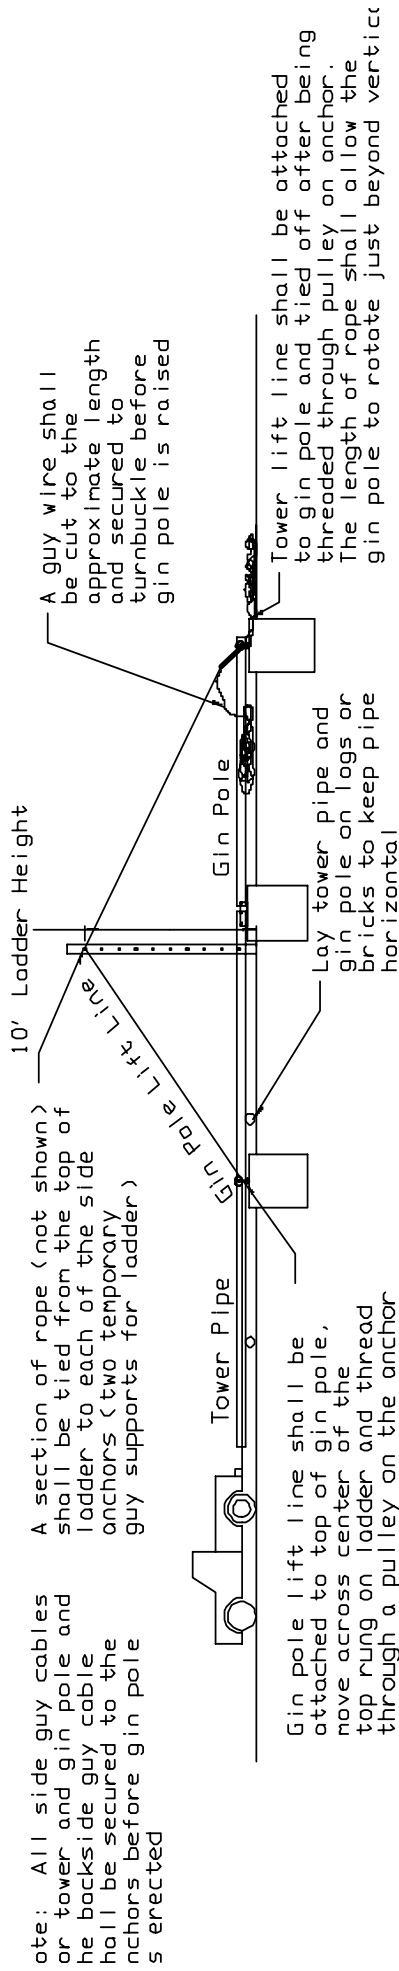
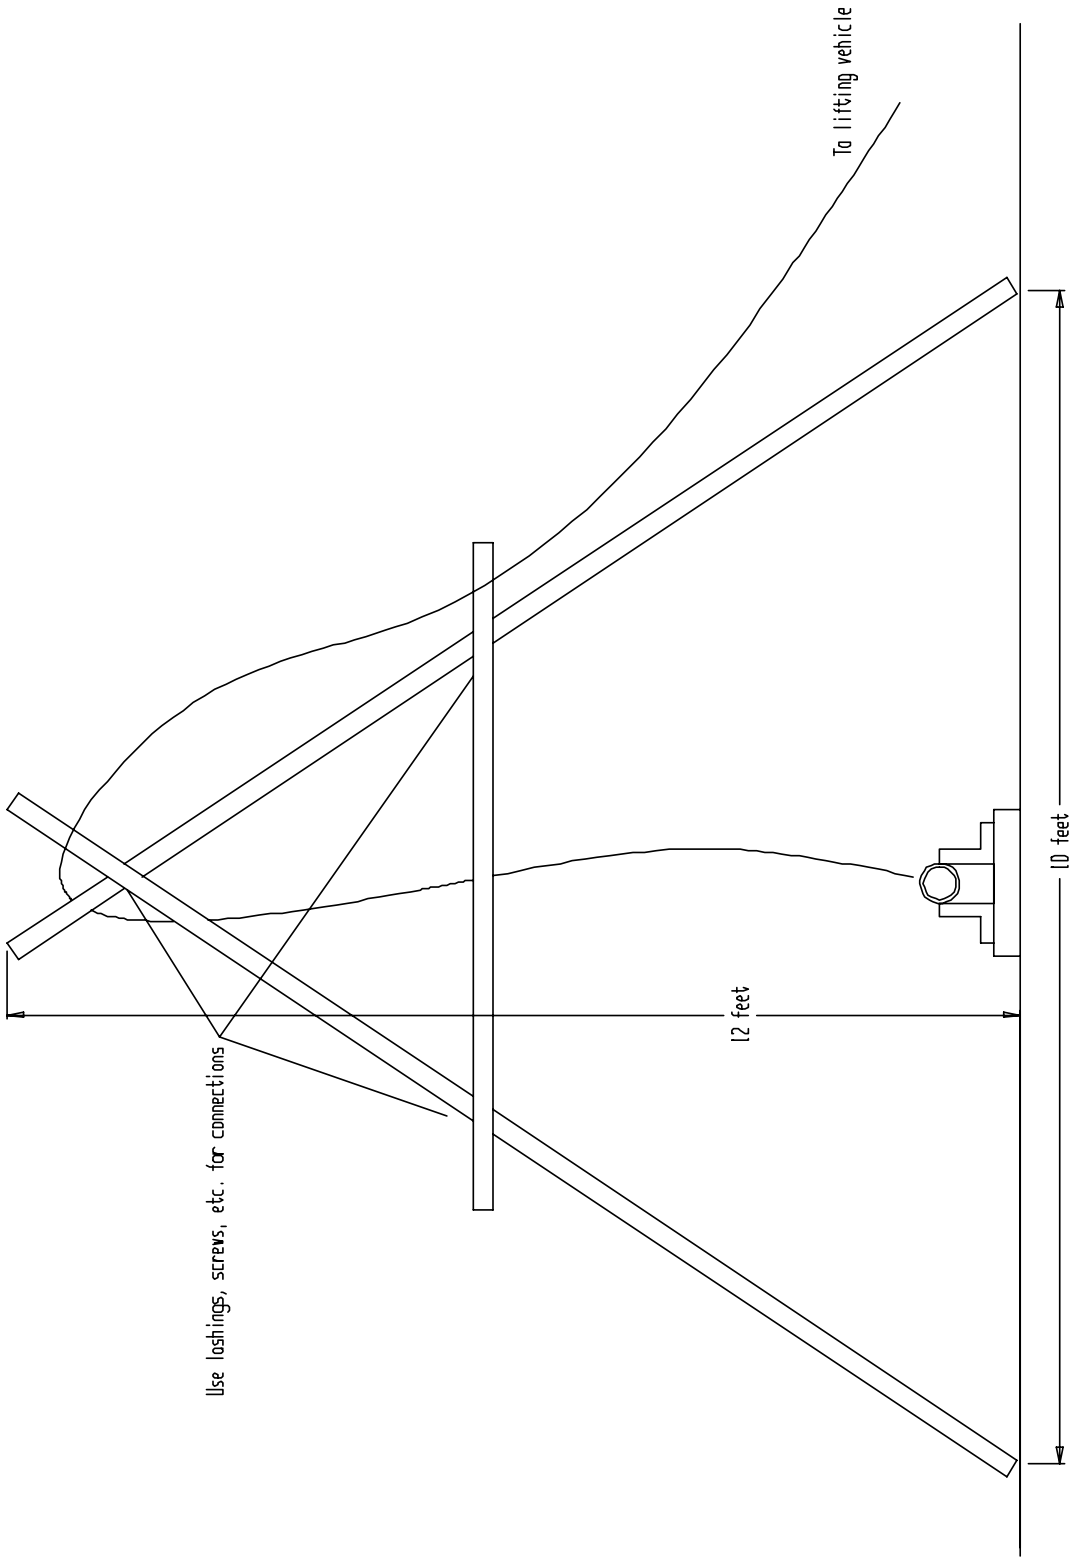

Figure 10
Figure 15
When you finish assembling the gin pole and tower pipe the installation should look like Figure 10. Remember to have on hand wood pieces or bricks to support the pipe sections 7 inches above ground. This is important since you do not want to be moving the tower and lift-pipe sections around. They are very heavy! Remember to have help around to move the pipes into place. See figure 2 and 10 for details!
2. The first step to raising the tower is to raise the gin pole. The gin pole for the 30' 175 tower weighs over 250 pounds so a secondary gin pole is necessary to raise the gin pole. One option for this secondary gin pole is to use a 10' ladder with a minimum rating of at least 250 pounds (see Figure 10). Do not use a stepladder for this because it must be able to rotate on its base. The ladder should straddle the tower pipe and be located near the tower base. An extension ladder with the proper rating should work just fine. The ladder should be given side-to-side support by tying a rope from the top of the ladder to each of the side anchors. This rope should have a minimum breaking strength of 4000 lbs. These two ropes will prevent the ladder from falling to either side during the gin pole erection. If a ladder is not available, then an A-Frame can be built out of 2x4s (see Figure 15).
4. Connect the gin pole lift line to one of the turnbuckles on the gin pole. The minimum breaking strength for this rope must be 4000 lbs. The gin pole lift rope is then run across the top rung on the ladder before it goes through a pulley connected to the anchor. This pulley must be rated for at least 3000 lbs. The end of this rope should be attached to the bumper on the vehicle raising the gin pole. An alternative to a vehicle is to use an appropriately sized winch connected to the anchor (see Figure 10).